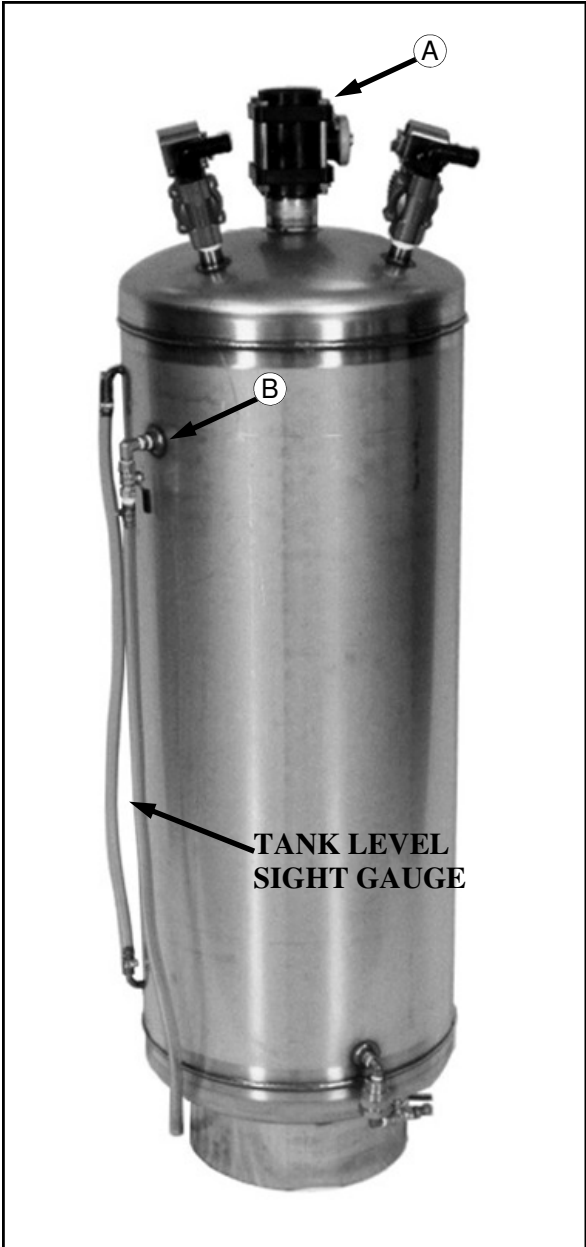

FIG 71-1
**FILLING THE FOAM MARKER SYSTEM**– Relieve pressure from the foam tank by opening the ¼” ball valve on the side of the foam tank (fig. 71-1, item B). Close the ball valve after pressure is relieved. Open the top 2” ball valve (fig. 71-1, item A). Add water to the tank, leaving enough room for the foam concentrate. Next add the foam concentrate according to the label on the container. After filling is complete, close the 2” ball valve on top of the tank. Start the sprayer’s engine and adjust the air pressure accordingly (see previous page).